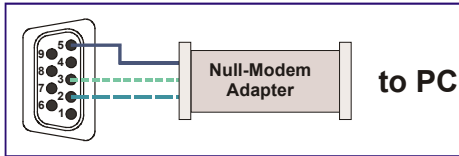

Figure 5: Straight Cable RS-232 Connection with a Null Modem Adapter
**Method B (Figure 5)**—Connect the RS-232 9-pin D-sub port on the unit via a straight (flat) cable to the null-modem adapter, and connect the null-modem adapter to the RS-232 9-pin D-sub port on the PC. The straight cable usually contains all nine wires for a full connection of the D-sub connector. Because the null-modem adapter (which already includes the flow control jumpering described in Method A above) only requires pins 2, 3 and 5 to be connected, you are free to decide whether to connect only these 3 pins or all 9 pins.